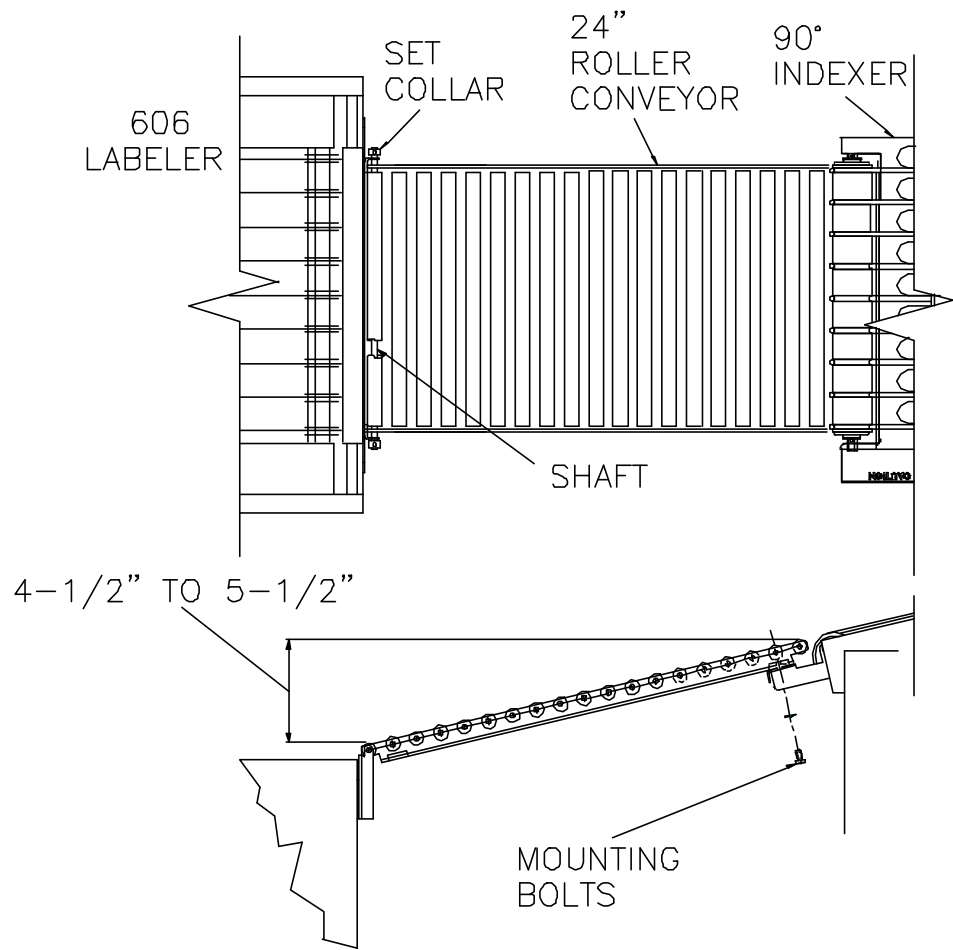

Figure 4-3 606 Attachment
- On 606 applications the discharge roller assembly is attached to a 0925-0232 infeed bracket using the 15" shaft and set collars provided (See figure 4-3).